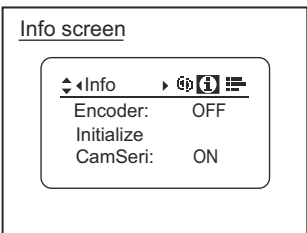

Fig1-9
7. Info screen  ..... (See Fig. 1-9 below)